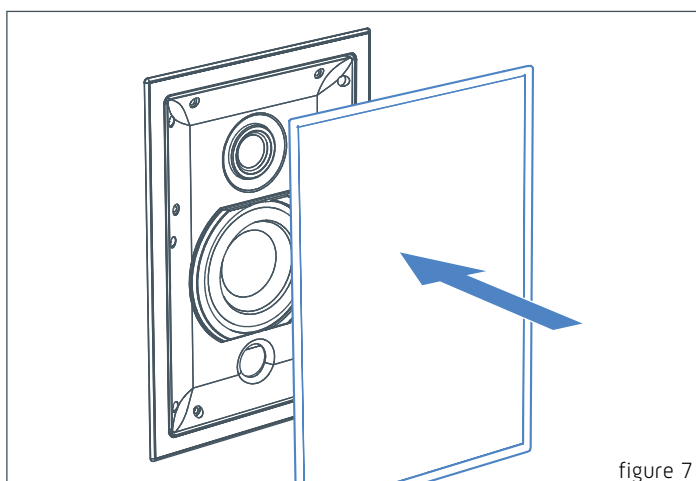

figure 7
- If the grille does not required painting gently fit the metal grille to the front of the speaker housing. (Figure 7)